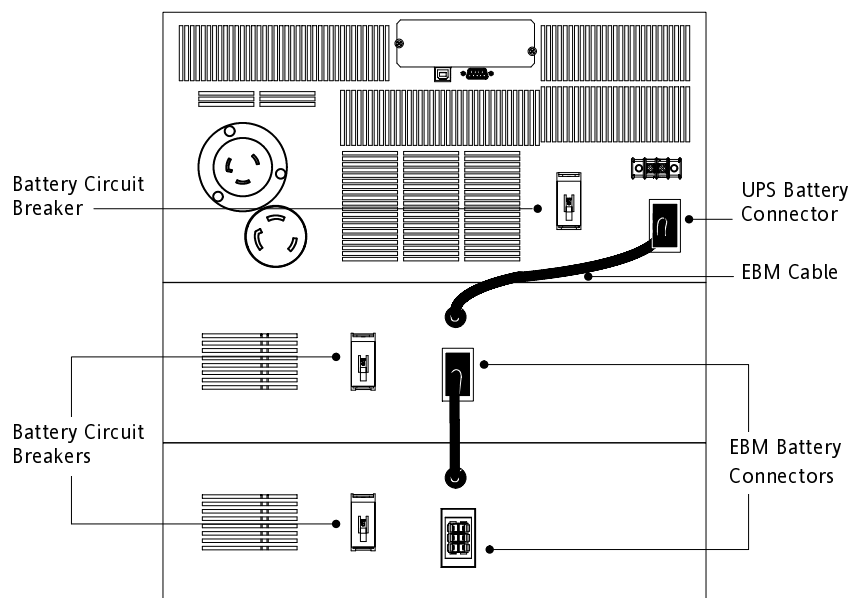

Figure 9. Typical EBM Installation
1. Verify that all battery circuit breakers are in the OFF (O) position (see Figure 9).